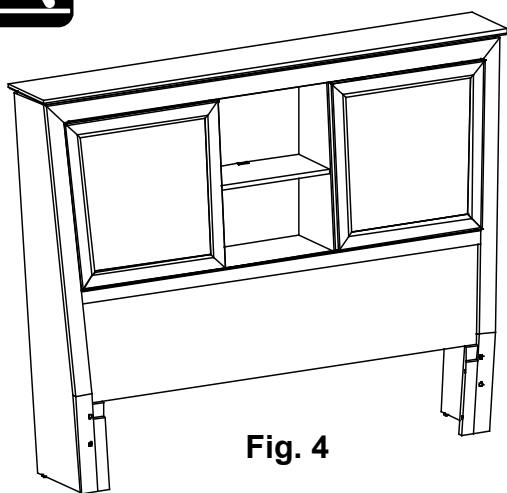

Fig. 4
3. Position the Headboard (Ab) against the frame and attach using six #14 x 3/4" Pan Head Screws (YG) and six 18mm Washers (YH).
4. Place your bed in its final position. To level the headboard, reach behind the bookcase front legs and, using a slotted screwdriver, find the Large Adjustable Glide (ZR). Using a slotted screwdriver, rotate the Large Adjustable Glides (ZR) clockwise until they bear weight. See Figures 4, 4a and 4b.